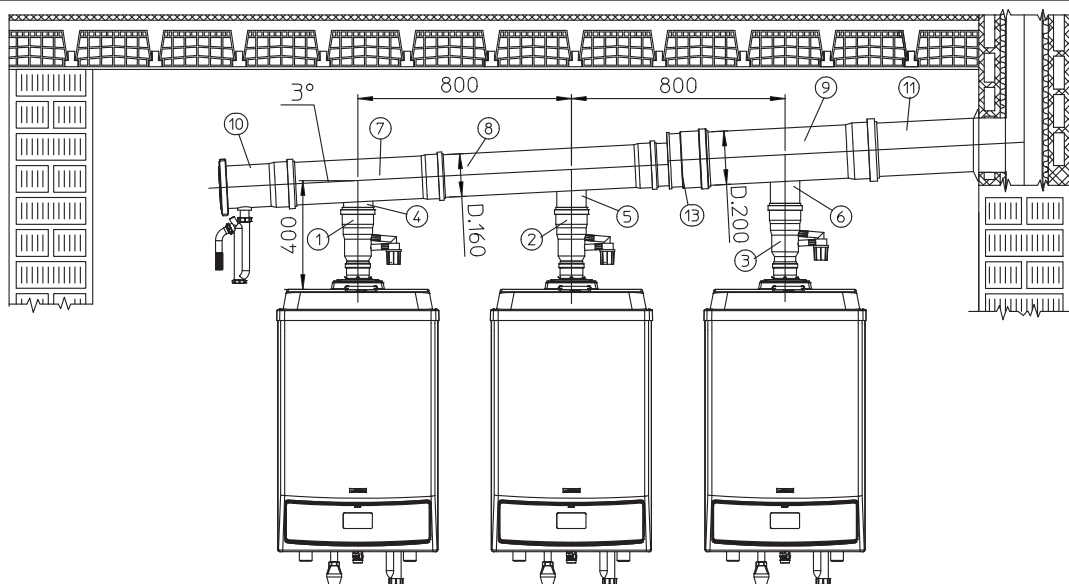

Fig. 1-23
- the distance between the boilers (2 or 3) must be 800 mm (Fig. 1-23);
- the manifold of the third boiler has the diameter of 200 mm (9), which is connected to the manifold with Ø 160 mm (8) via an adapter (13);